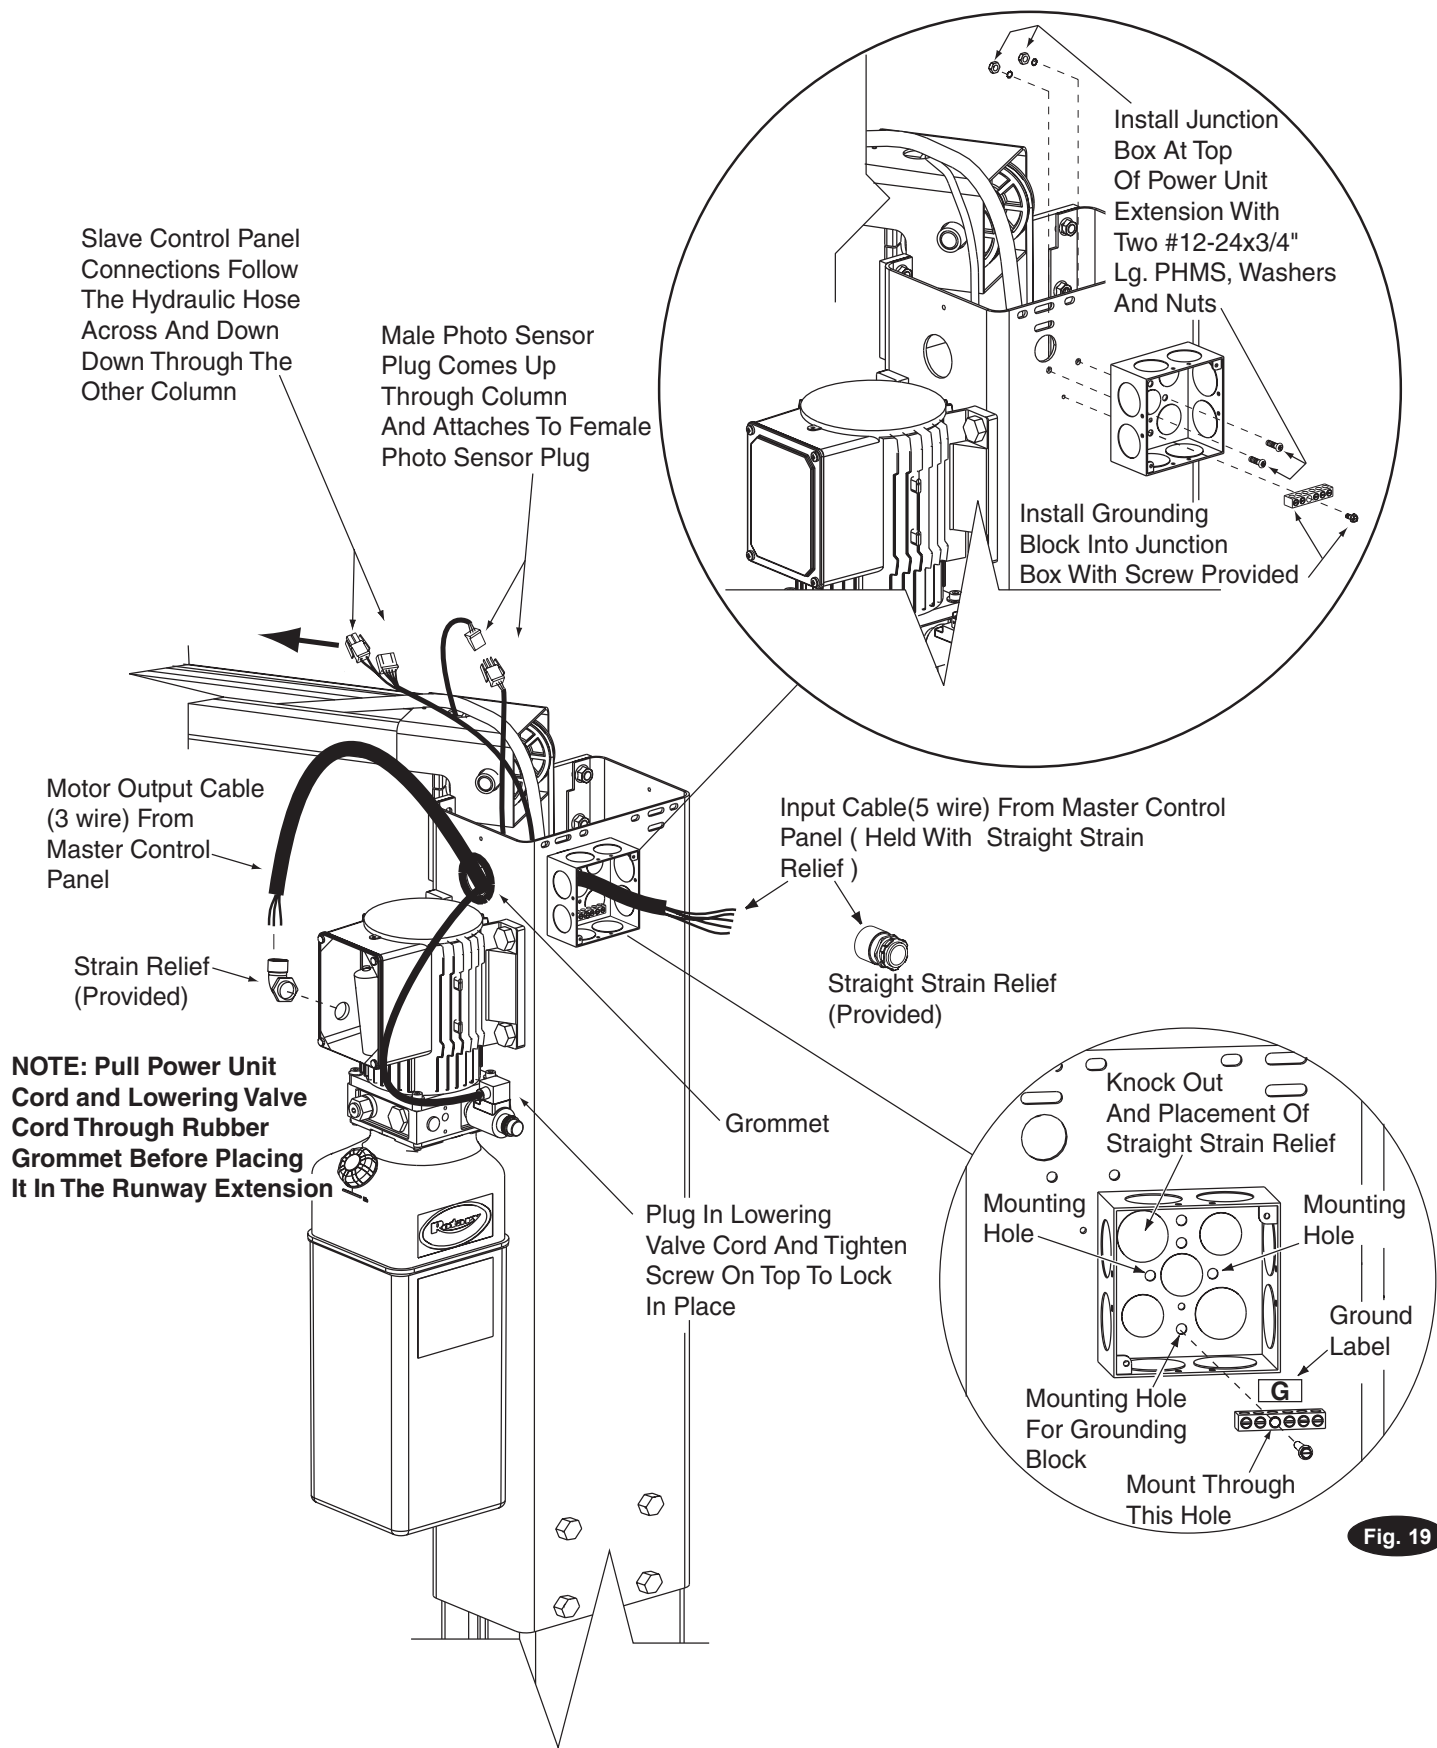

Fig. 19
- A) **Attaching junction box:** Attach junction box onto power unit column with two #12-24NC x 3/4" Lg. PHMS,washers, and nuts , Fig. 19. Install grounding block into junction box with screw provided as well as placing the G (grounding) sticker above the block, Fig. 19.
- F) Route input cable multiconductor (5 wire) cord through straight strain relief, provided, and junction box see Fig. 19.
- G) Photosensor cord comes up through top of column and plugs into female connection of photosensor, see Fig 19.
- H) Route slave control panel wires along hose and down to the slave control panel, Fig 19.
- L) Place rubber grommet over motor cord and lowering valve cord then place it in the hole above the power unit, see note Fig 19.
21. Electrical: Have a certified electrician run appropriate motor voltage to junction box, Fig.19. Size wire for 25 amp circuit. See Motor Operating Data Table.